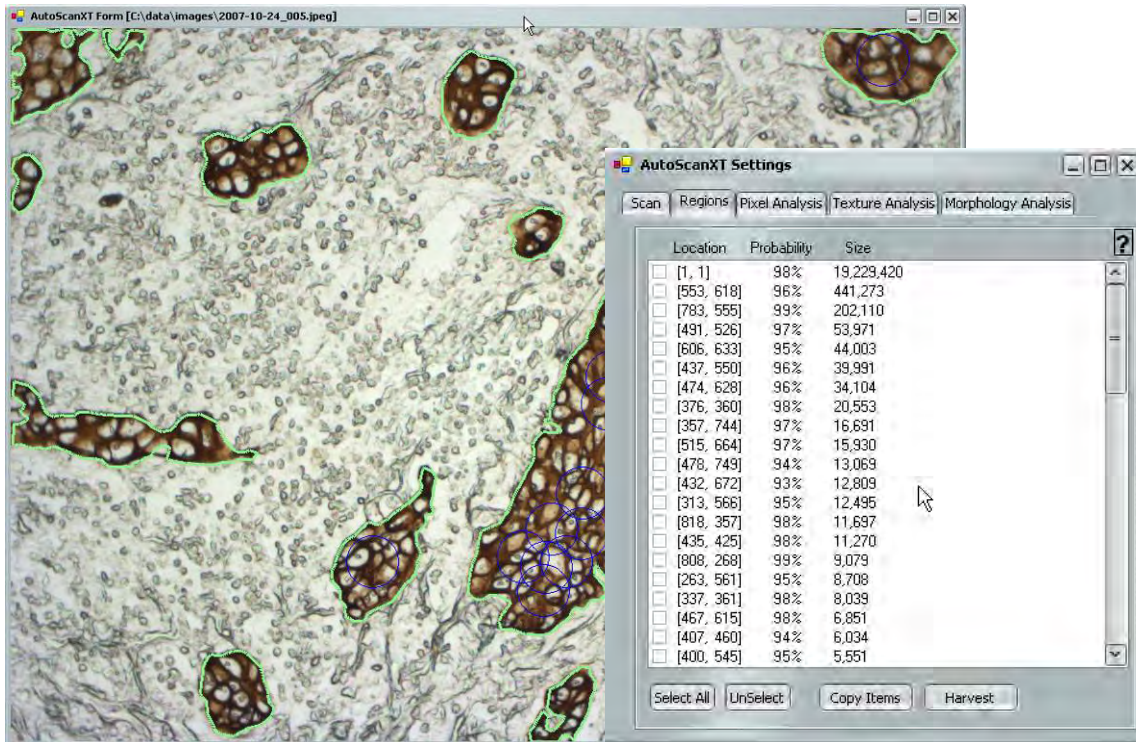

Figure 6. Regions Tab and ROI List.
3. Upon completion, the Regions tab will appear containing a list of ROI items and the static image will be updated with identified ROI areas marked (Figure 6).